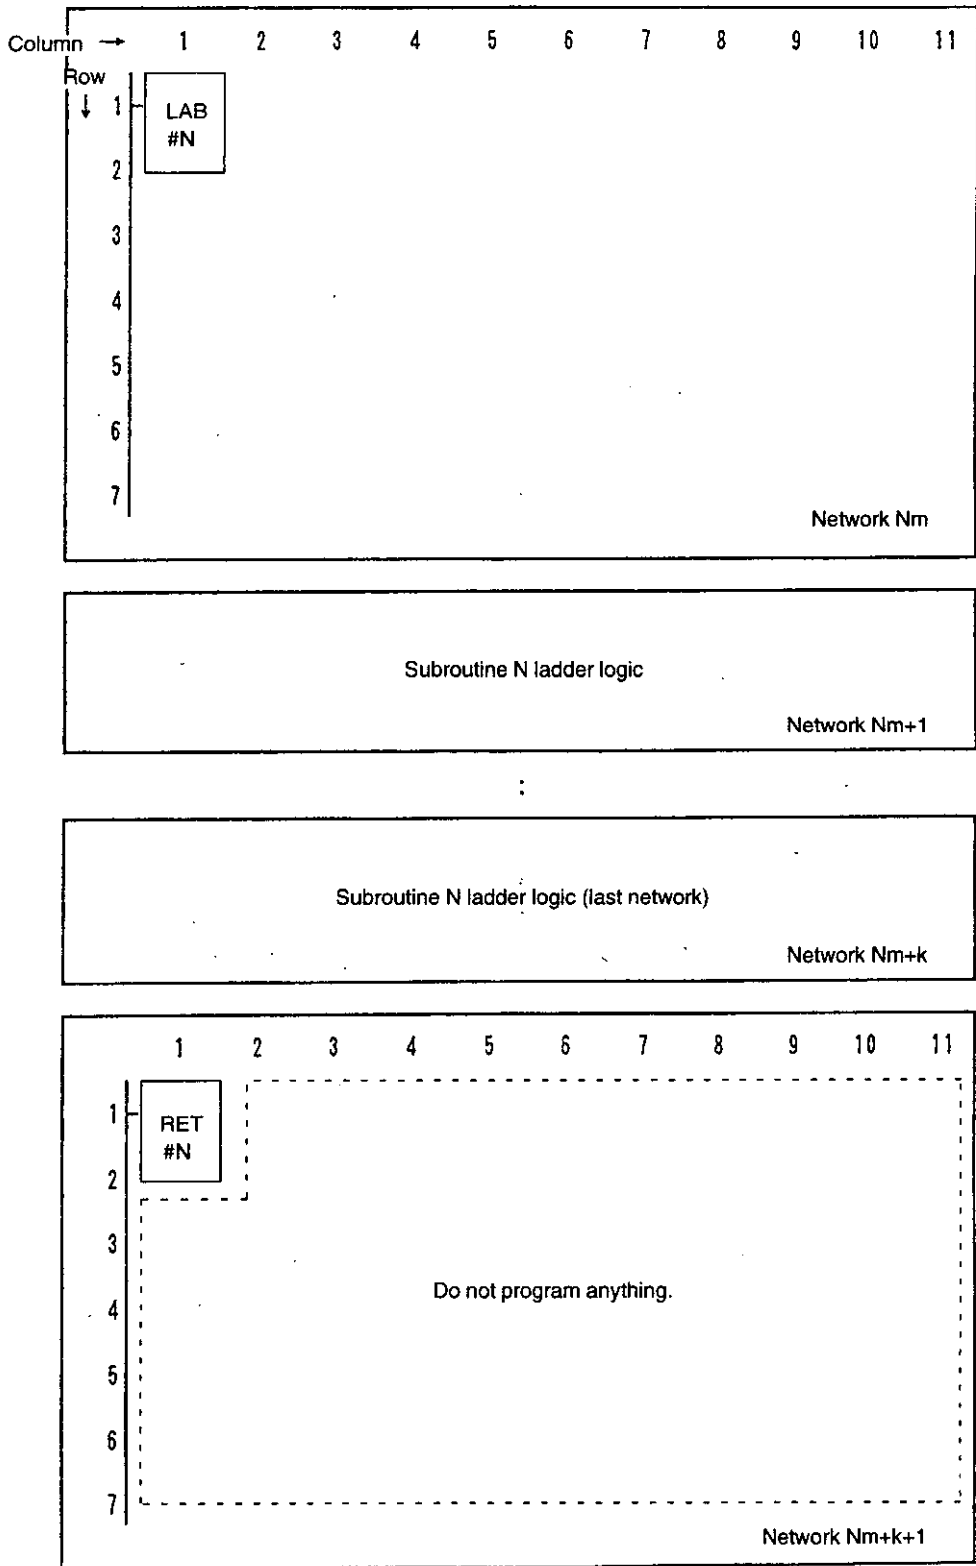

Figure 2.8 Subroutine Program Example
- 6) RET can be programmed anywhere in the network except for the coil column (i.e., the 11th column), but it is recommended that it be programmed in the first row and column of the network following the last network of the subroutine, as shown in Figure 2.8.